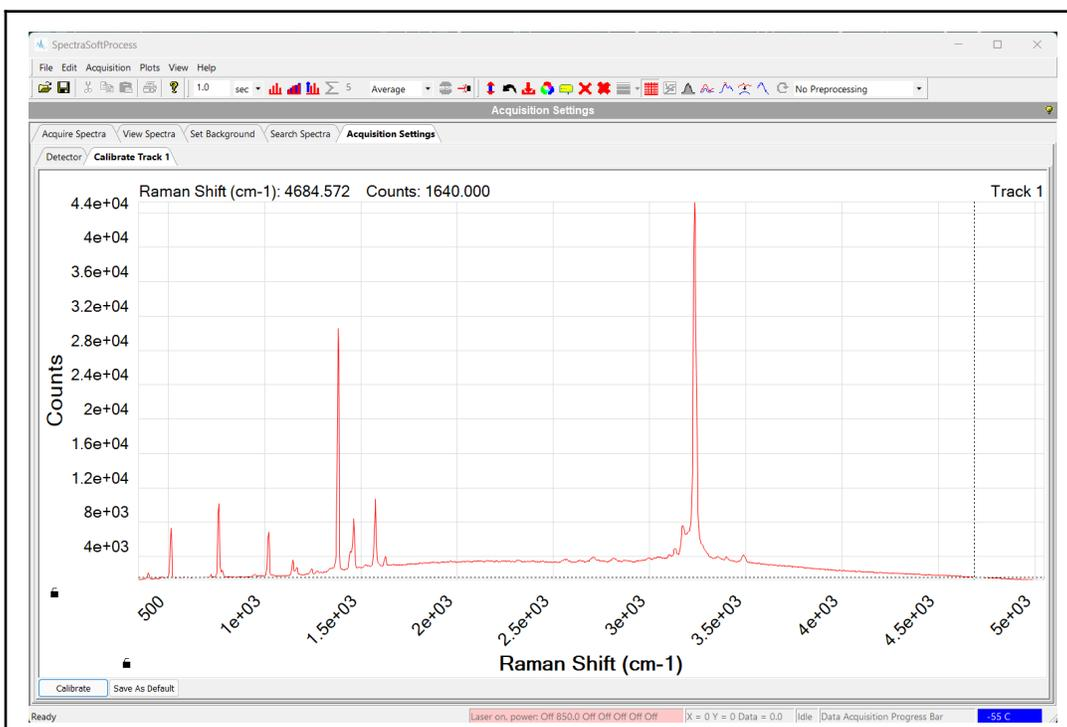

Figure 5. Calibrate Track Tab
- The Calibrate Track tab is where calibration can be set for a given track, seen in Figures 5 and 6.